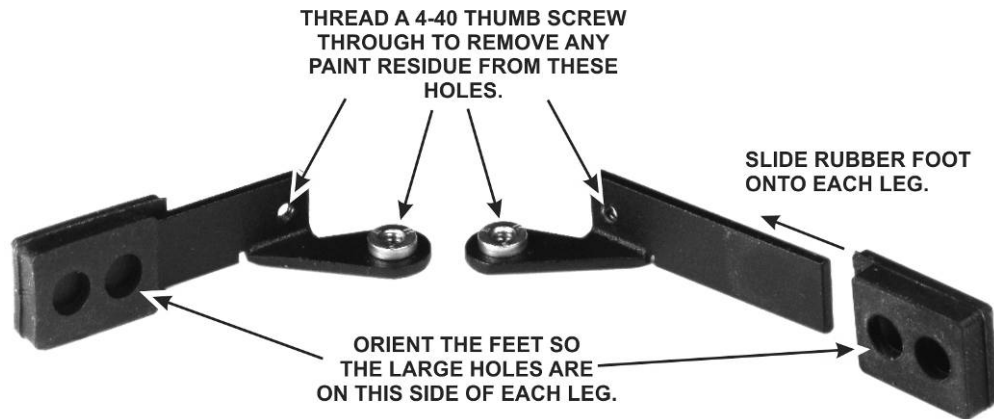

Figure 40. Preparing the Tilt Legs for Installation.
- Locate the two tilt legs and four rubber feet. Mount one rubber foot on each tilt leg as shown in Figure 40. The feet are held in place by friction. Be sure the feet are worked all the way onto each foot as shown.